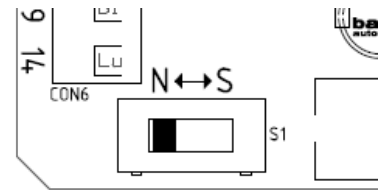
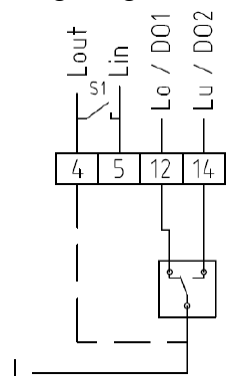

Fig. 7: N↔S-switch
Fig. 8: Wiring diagram 3-point-signal
3. Set the N↔S switch (Fig. 7) to "S" and wire as shown in Fig. 8 (the positioner must remain connected to the power supply throughout).